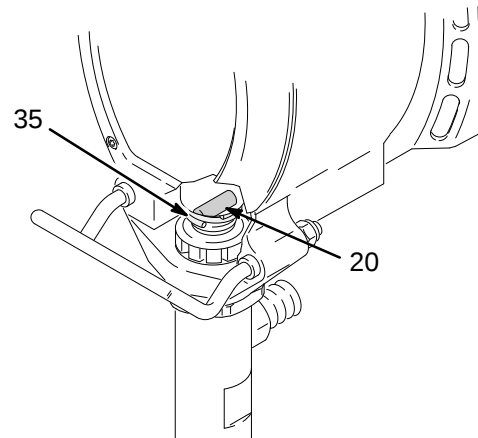

Fig. 1
3. Push retaining spring (35) up and push out pin (20). See Fig. 1.